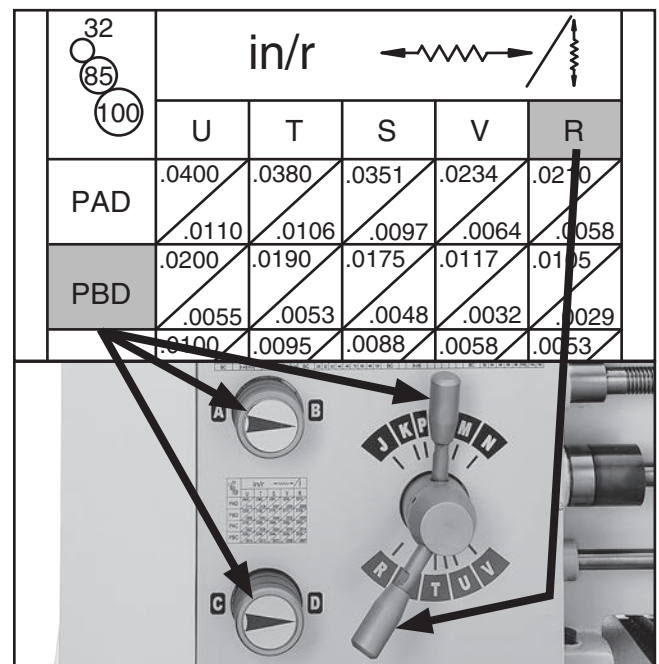

Figure 64. Feed settings for 0.0105" feed rate.
5. Move feed dials and levers to positions **PBDR**, as shown in **Figure 64**.